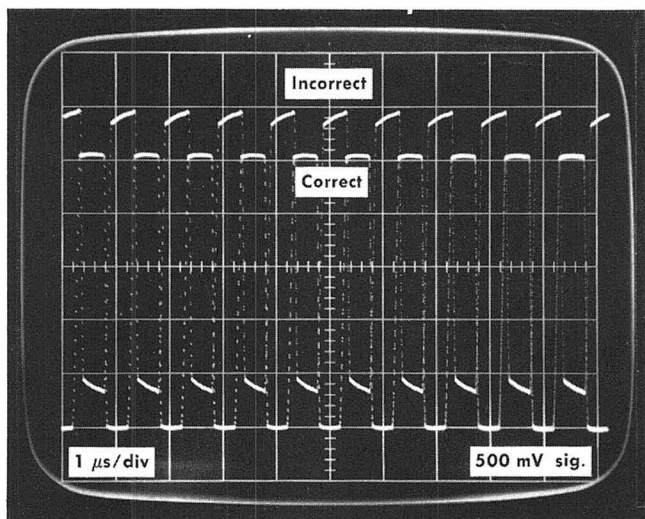

Fig. 5-10. Double exposure while adjusting C14, Transient Response control.
b. The display should be one cycle per division with the square wave top and bottom flat (parallel to a graticule line). Fig. 5-10 is a double exposure showing a correct adjustment of the TRANSIENT RESPONSE control, and an incorrect adjustment. The tilt of the square wave can be either rising or falling when C14 is not correctly adjusted.